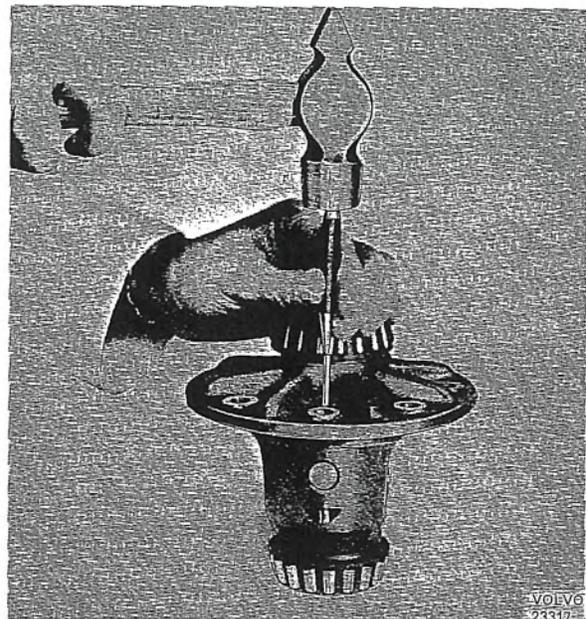

Fig. 4-140. Removing lock pin
2. Drive out the lock pin, see Fig. 4-140, and then the shaft for the differential gears. Take out the block, the differential gears and the thrust washers.